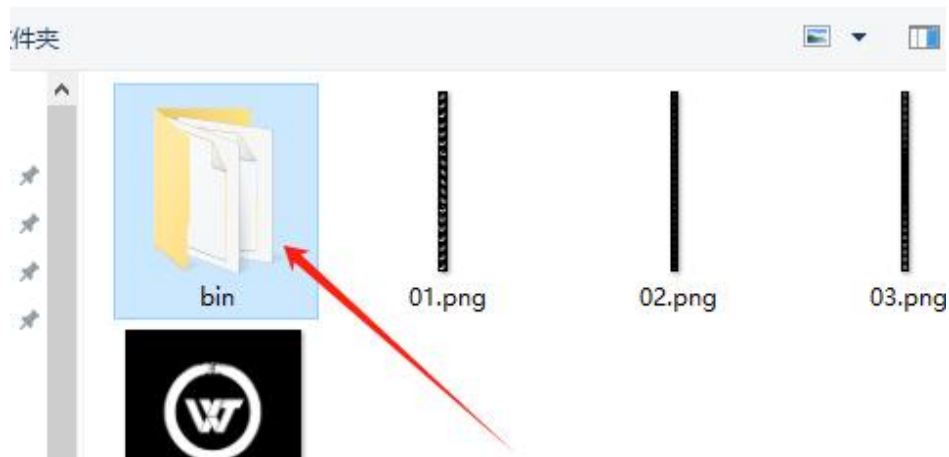

Figure 4-2 The generated bin folder
3. Start conversion: A BIN file will be generated in the folder of the current image as shown in Figure 4-2.
4. Open the upgrade file: Select the BIN file generated in Figure 4-2. Note that it is very important to put the animation BIN file in front of the upgrade file. Therefore, the file name must be named in order to facilitate sorting and prevent upgrade failure.